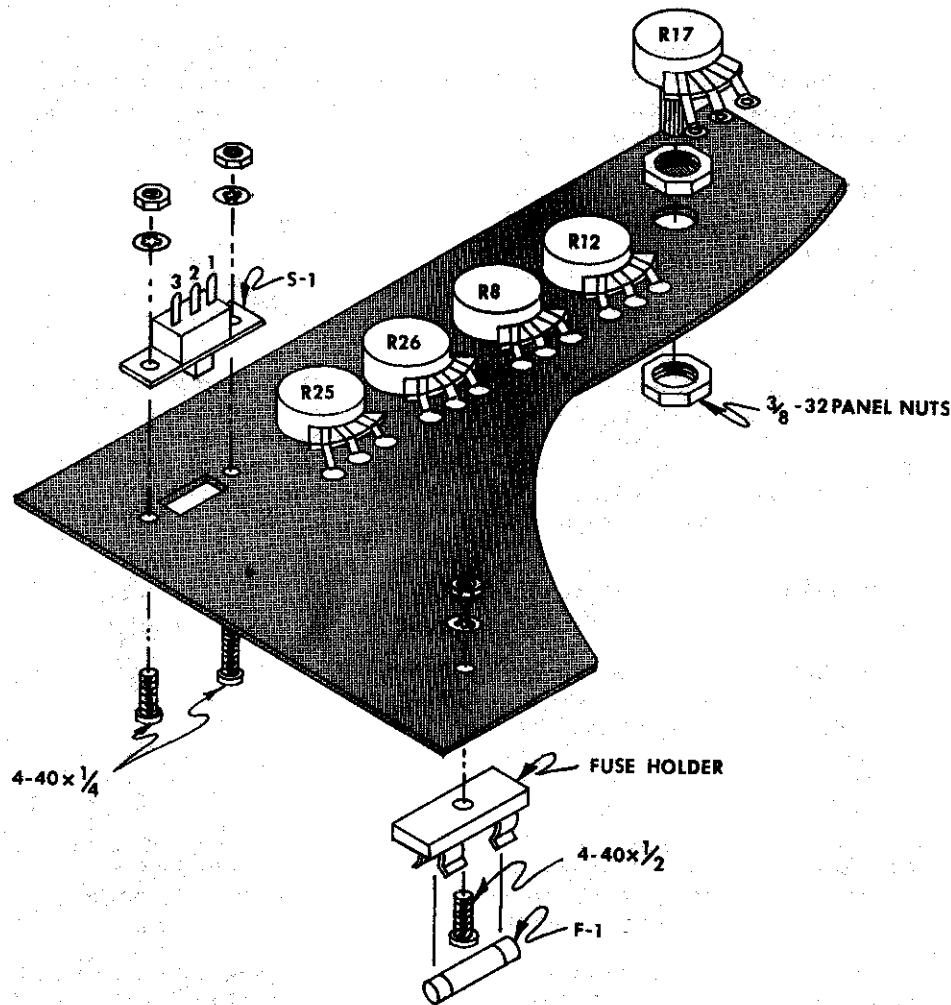

Figure 3 - Potentiometers, Switch, and Fuse Block Mounting Detail
Install the potentiometers. Note that before installation each potentiometer should have its soldering lugs bent as shown in figure 3. This will allow the potentiometer lugs to mate up with their soldering pads as the potentiometers are installed. Solder the lugs directly to the pads.
- () Using two (2) 4-40 X 1/4-inch machine screws, two (2) #4 internal lock washers, and two (2) 4-40 machine screw nuts install the slide switch S-1 as shown in figure 3.
- () Using one (1) 4-40 X 1/2-inch machine screw, one (1) #4 internal lock washer, and one (1) 4-40 machine screw nut install the fuse holder as shown in figure 3.
- () Using two (2) lengths of excess wire saved from the resistor installation make the connections between the fuse holder solder lugs and the circuit board.
- () Solder the remaining end of the wire installed in the previous step to lug #1 of S-1. Refer to figure 3.
- () Solder the remaining end of the wire installed in the previous step to lug #2 of S-1. Refer to figure 3.